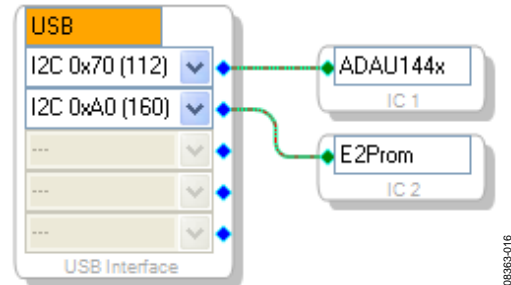

Figure 16. Connecting the EVAL-ADAU144xEBZ to the E2Prom IC
2. Drag a wire from the second blue pin on the USBi to the green pin on the E2Prom IC, as shown in Figure 16.